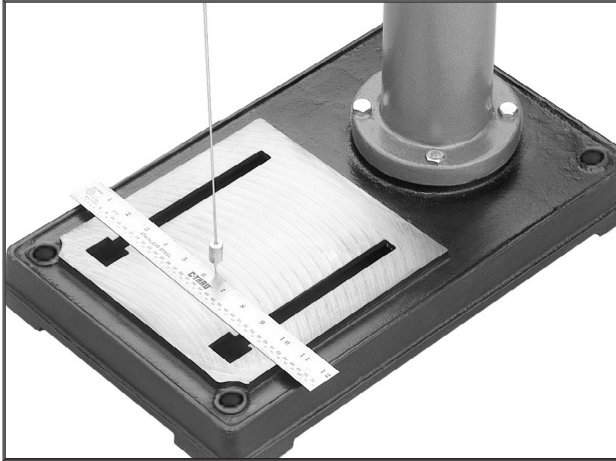

Figure 13. Aligning headstock with base.
- Suspend a plum bob from the center of the headstock spindle so it is over the tape/ruler as shown in **Figure 13**.